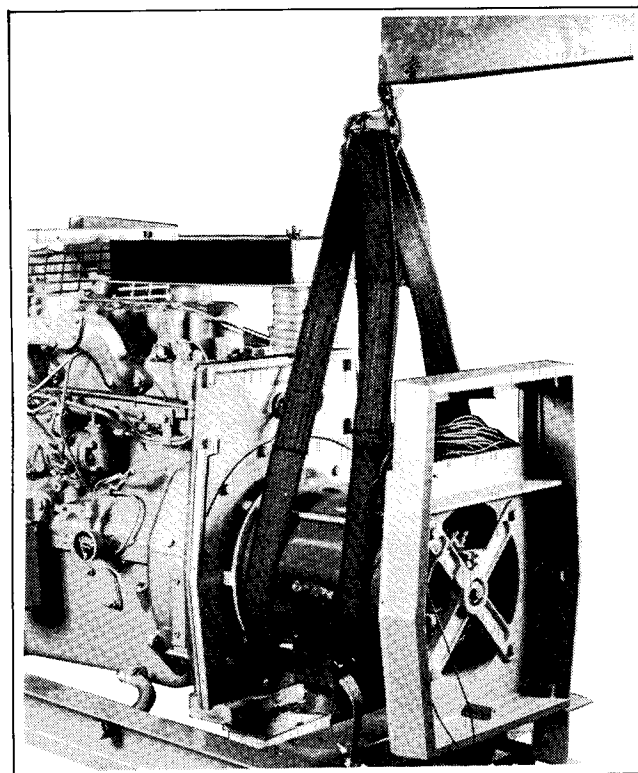

Figure 4-10. Hoisting Generator
4. Cradle stator with lifting straps and raise with a hoist to lift generator off of vibro-mounts (Figure 4-10).